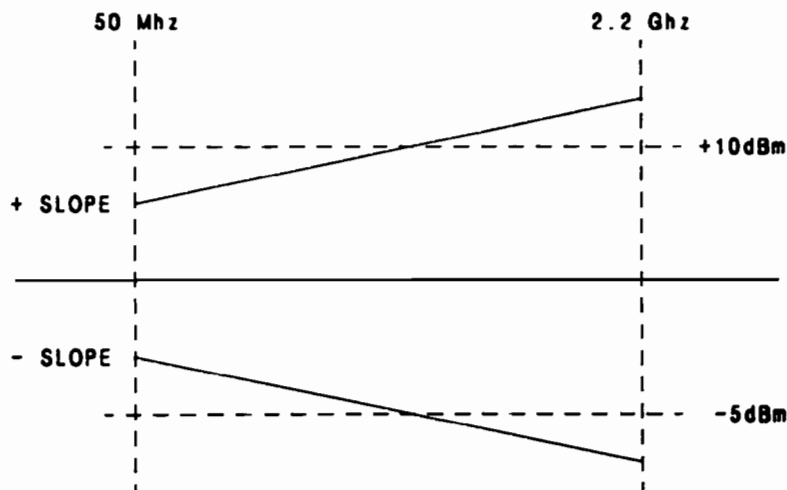

Figure 5-32. 0 Slope Adjustment
9. Adjust A4R1 (SLP) to get the same but opposite difference between (50 MHz and 2.2 GHz at -2 dBm) and (50 MHz and 2.2 GHz at $+13 \text{ dBm}$). See Figure 5-32.